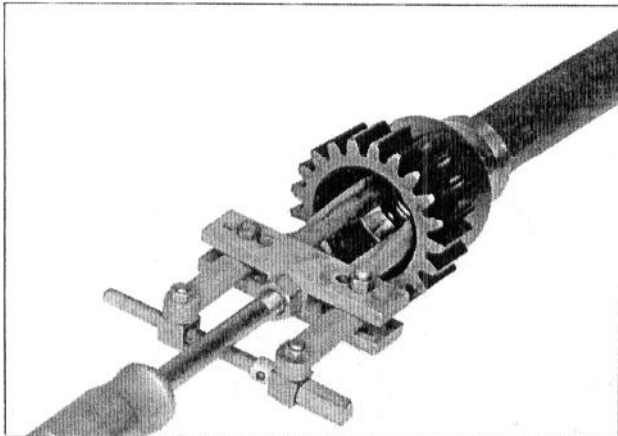

Fig. 96 - Spherical Bearing Cup Removal
9. Remove the spherical bearing cup from inside the axle shaft. Refer to Fig. 96.